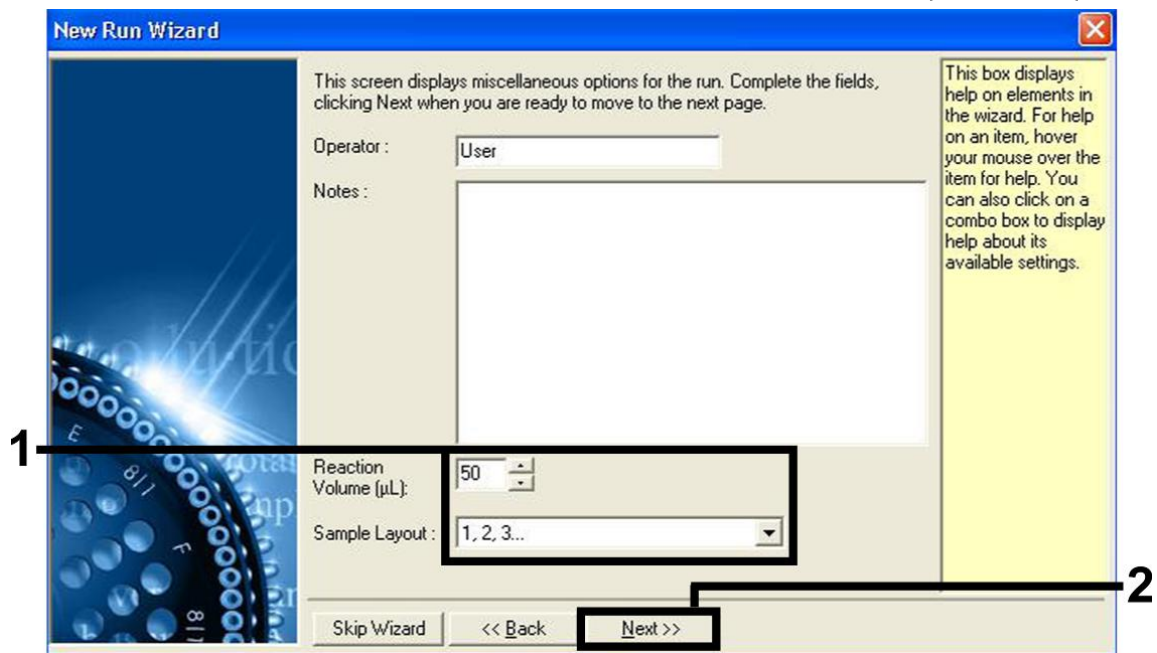

Figure 3. Setting the general assay parameters.
7. Select 50 for the PCR reaction volume and click "Next" (Figure 3).